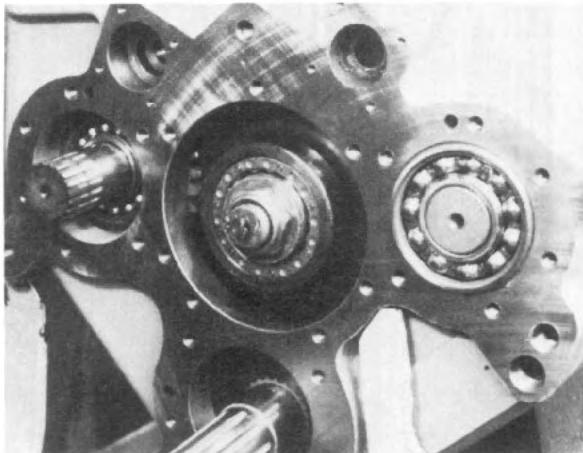

Fig. 27
8. Install the spacer washer (Item 41) and the roller bearing inner race (Item 42) on the shaft. The shoulder on the race should be toward the gear; this will allow the cover and the roller bearing outer race and roller assembly to fit over the inner race (See Fig. 27).
9. Install the retaining washer (Item 43) and locknut (Item 1) on the shaft (also shown in Fig. 27).